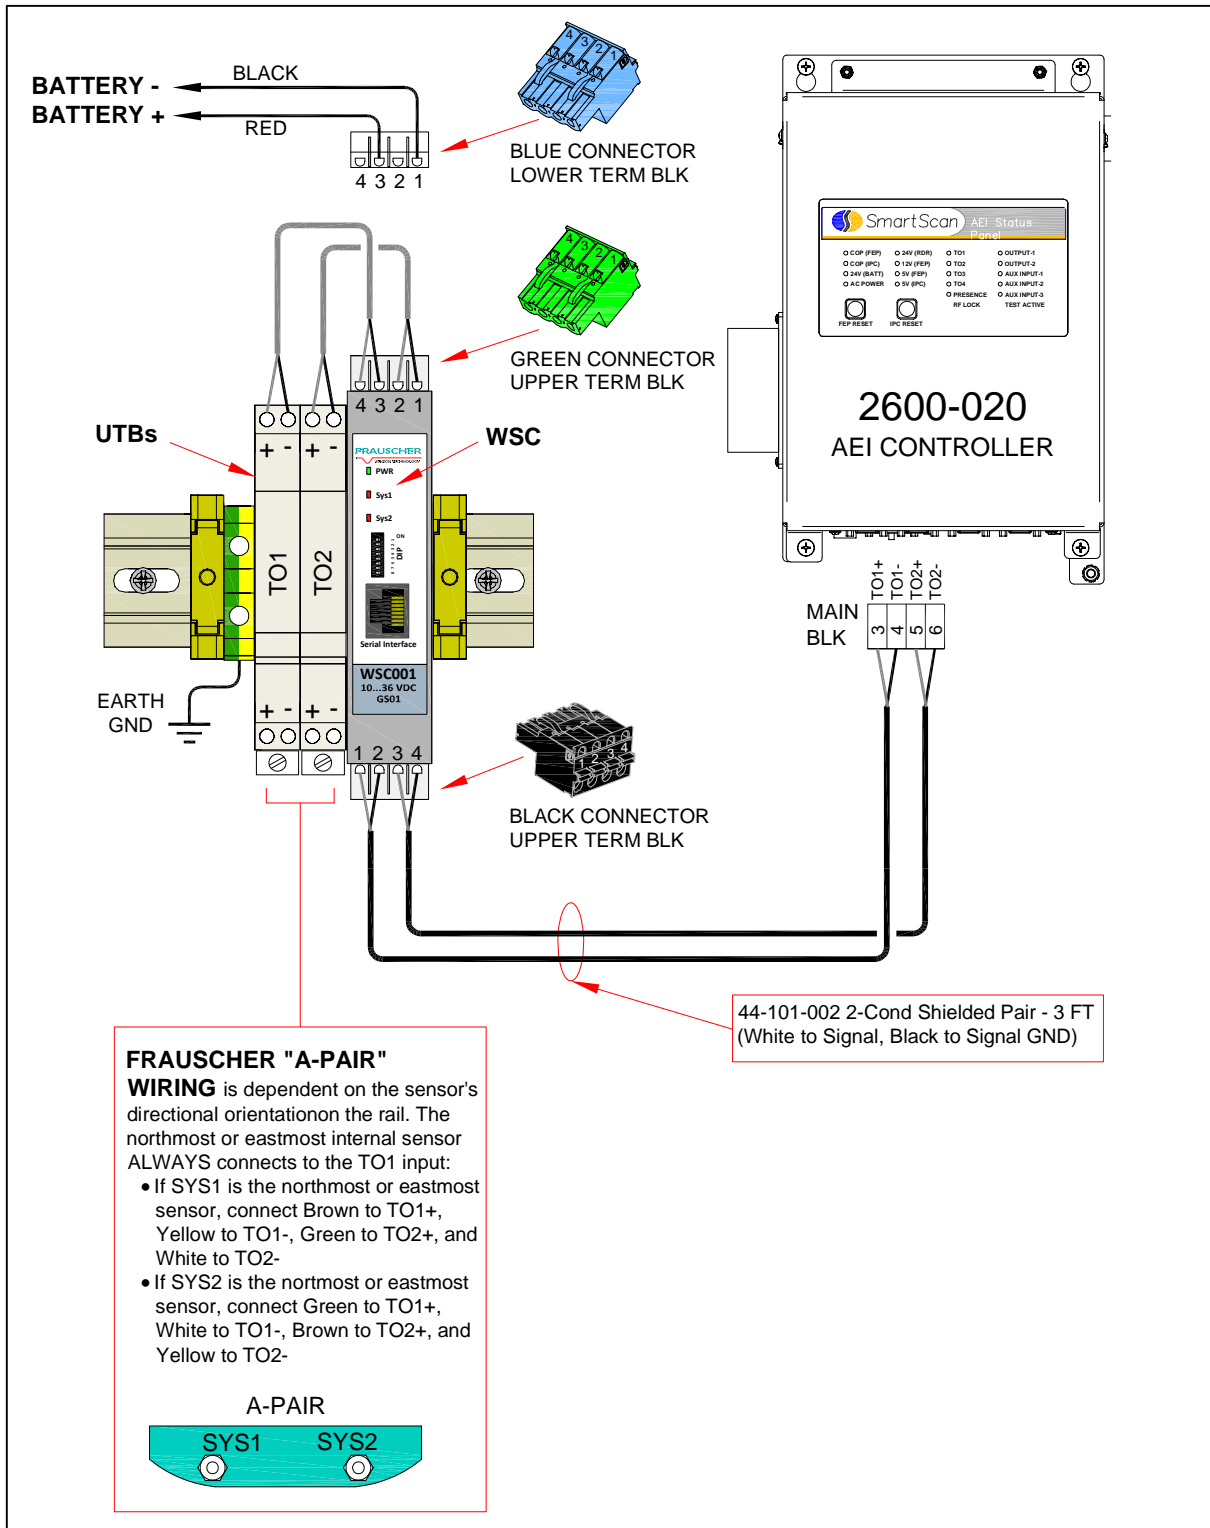

Figure 5: Frauscher Wiring to 2600-020 (Optional Configuration – Single Wheel Detector)
- Route the RSR110 wheel detector cables into the system enclosure. Wall mount the Frauscher Signal Convert Kit and terminate wiring per Figure 5 (for 2600-547) or Figure 6 for (2600-548).
One possible cause is a reverse polarity condition. Verify that all wiring is properly terminated per Figure 5 or Figure 6. Correct wiring errors as necessary, and run the Automatic Adjustment function again.